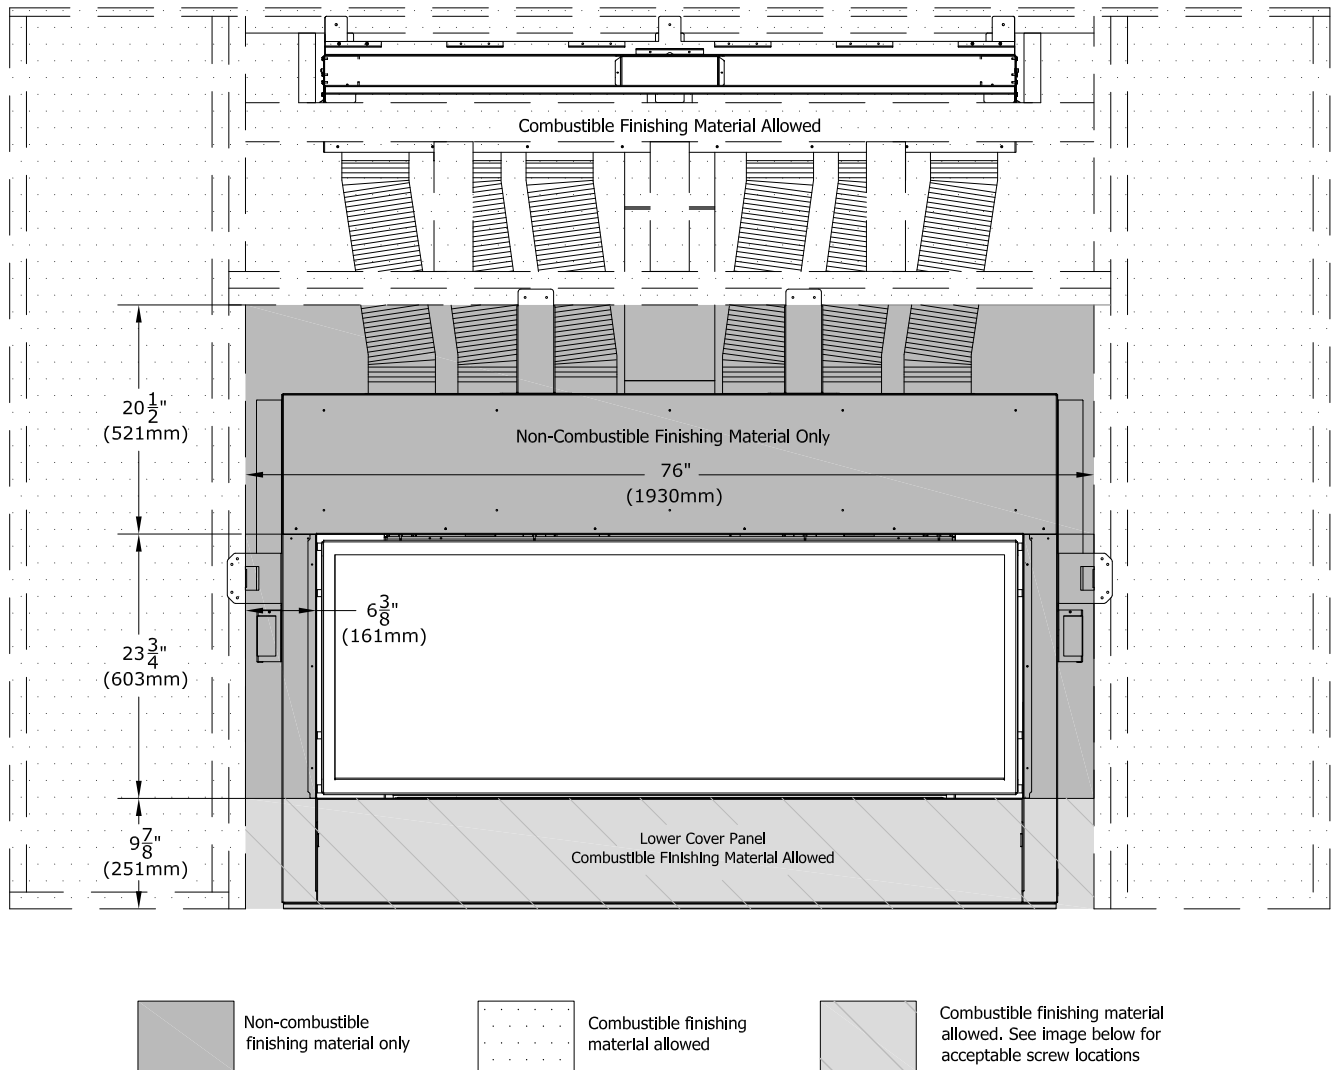
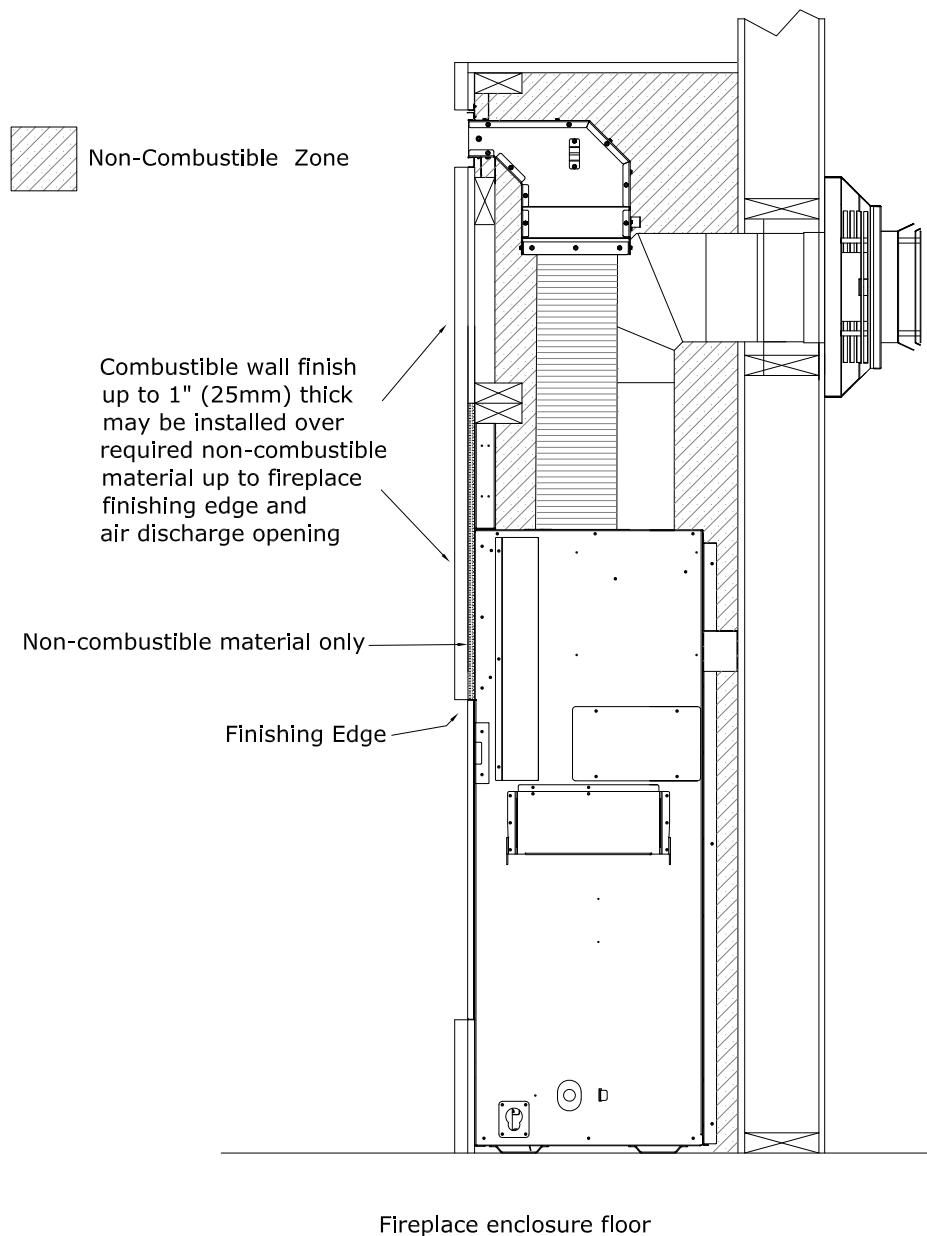

Figure 3.2 - Nordik 60TL Minimum Non-Combustible Finishing Dimensions
Figure 3.7 - Nordik 60TL Combustible Wall Finish
- Figure 3.7 shows installation of combustible wall finish up to 1" thick for the Nordik 60TL. This combustible material goes on top of any required non-combustible materials as required in Figure 3.2.
- Figure 3.1 (Nordik 48TL) and Figure 3.2 (Nordik 60TL) show the Non-Combustible Finishing Zone for the minimum requirement of noncombustible finishing material.